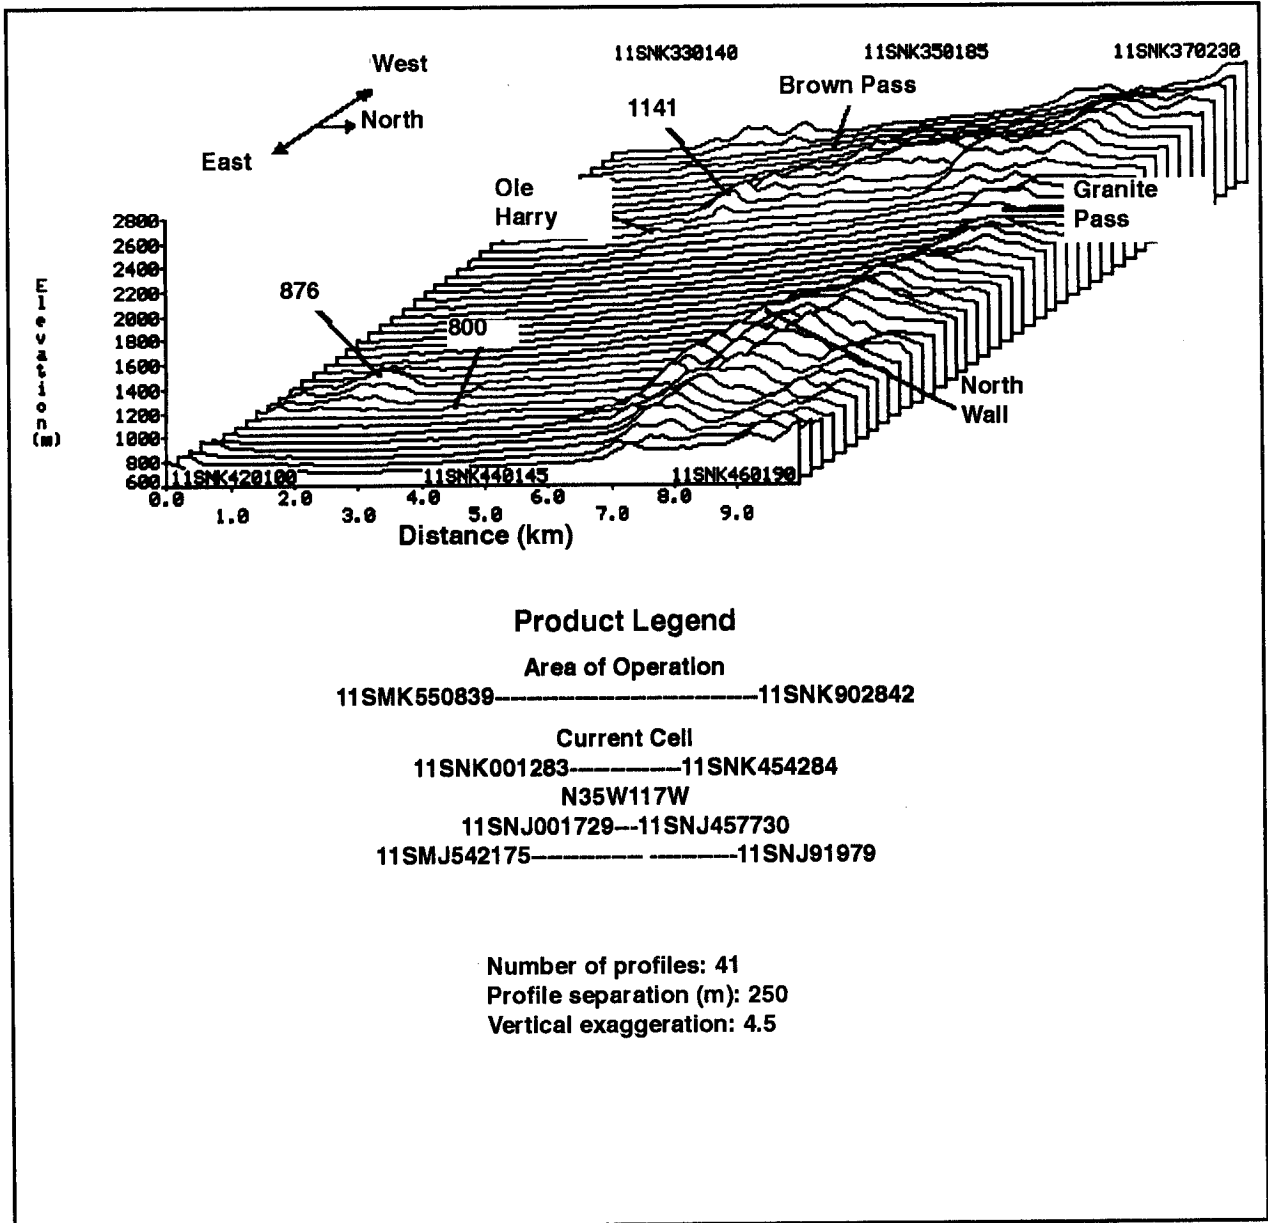

Figure C-5. Oblique view
- Oblique view. This product is a three-dimensional view of a piece of terrain. It can be enhanced with LOC, major rivers, major cities, and UTM grid ticks. The requester must provide a boundary using one of two methods. The first method is to use a six-digit coordinate for every turn in the boundary. The second method is to outline the boundary on a map or piece of acetate. This product is mainly used to give the commander and his staff a feel for the terrain in their AO (see *Figure C-5, page C-7*).